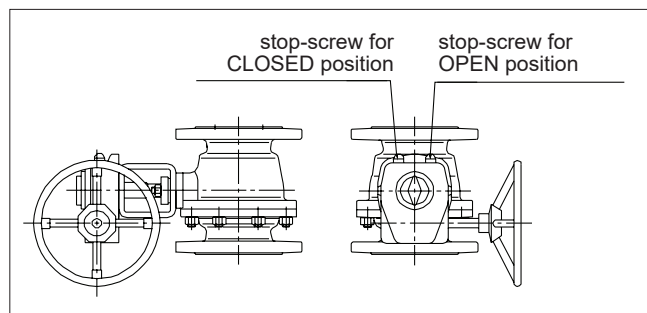

Fig. 28 Open and closed positions of the M actuators
- Adjust the circular movement of the ball with the hexagon screws located at the side of the housing (see Figure 28). The stop-screw for the open position is nearest to the handwheel on the side of the housing and the screw for the closed position is at the opposite end. The turning directions for the handwheel are marked on the wheel.